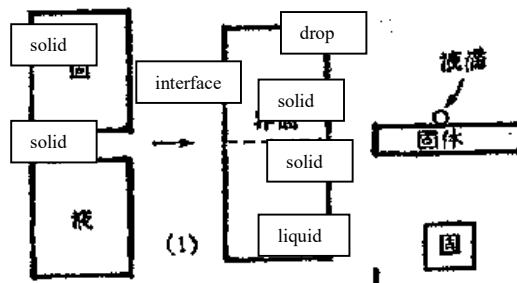

Figure 2 Three kinds of wetting
In thermodynamics, if free energy (G) of a solid-liquid system can be lowered after a the solid contacts the liquid, there is wetting between the solid and the liquid. The degree to which free energy is lowered is called wettability, in $W_{S/L}$. There are three types of wetting: adhesional wetting, spreading wetting and immersional wetting. Figure 2 describes the three kinds of wetting.